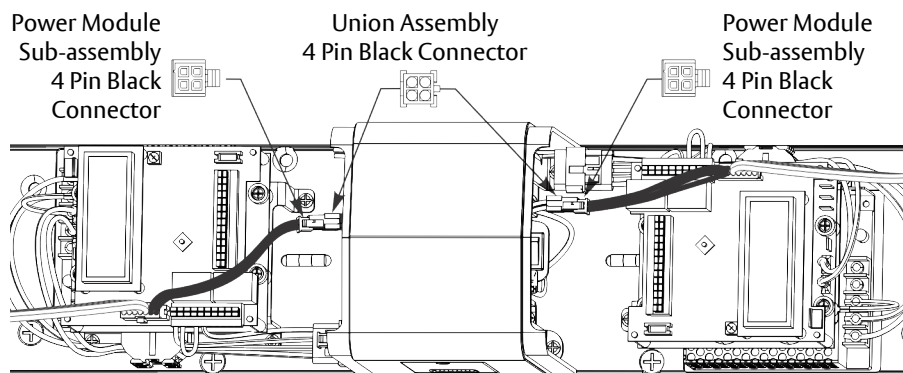

Figure 18
3. Connect 4-pin black square connector from power module sub-assembly to 4-pin black connector from union assembly for each operator. (Figure 18)